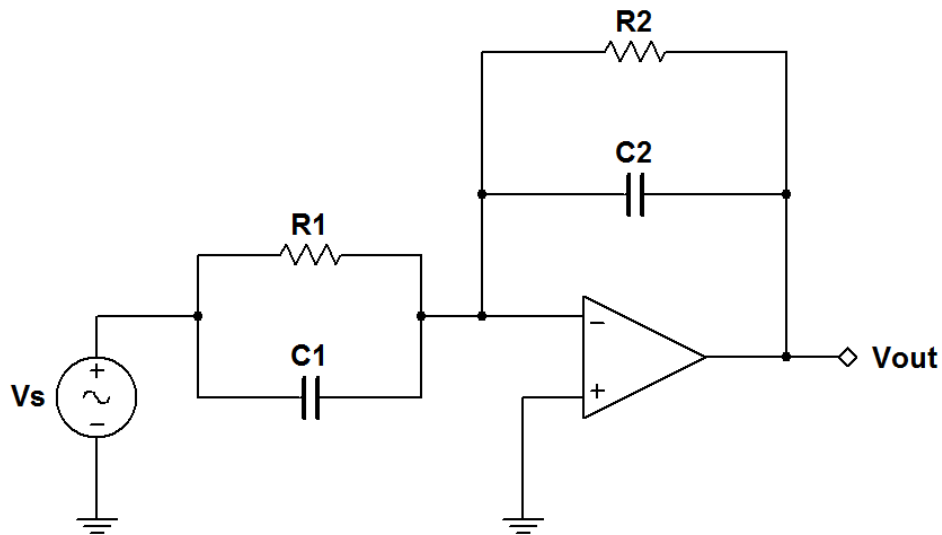

Figure 9.2: Circuit for Problem 9.2
1. Determine the voltage transfer function $\mathbf{H}(\omega)$ of the filter circuit shown in Figure 9.2. Write your finished result in standard form suitable for creating a Bode plot.
1. Enter the filter circuit of Figure 9.2 on the facing page. Drive the filter input with an AC_VOLTAGE source with “AC Analysis Magnitude” set to 1 V. Use the three-terminal virtual op amp model OPAMP_3T_VIRTUAL.
1. Build the filter circuit of Figure 9.2 on the preceding page. Drive the filter input with A00. Monitor the filter input with A10 and the filter output with A11.